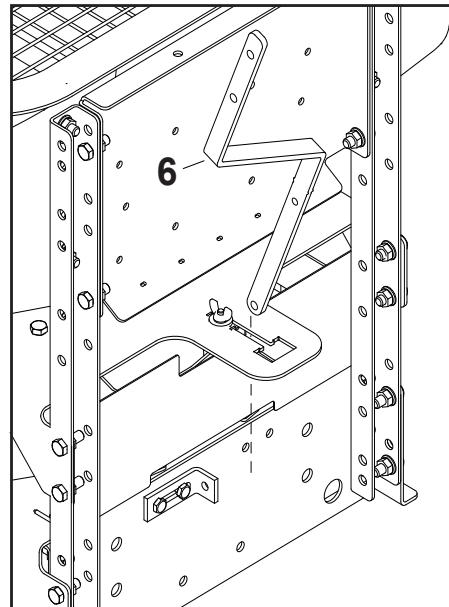

FIGURE 3
STEP 3: (SEE FIGURE 3)
- Install the lower handle (6) into the opening on the spreader support plate. Make sure the handle is orientated in the right direction. See image below.